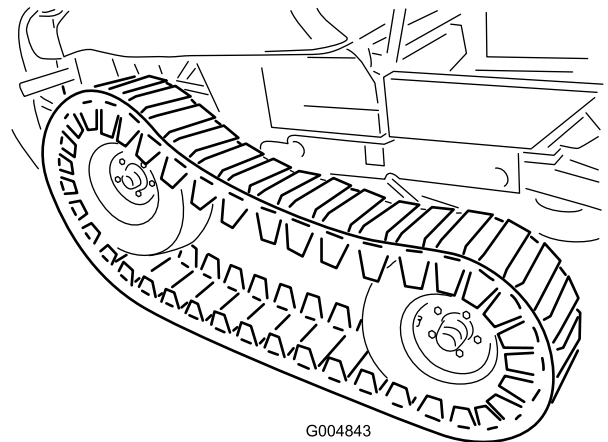

Figure 123
36. Adjust the floor jack to a suitable height to install the front tire. With a helper, lift the front of the track enough to carefully install the front tires (Figure 123).